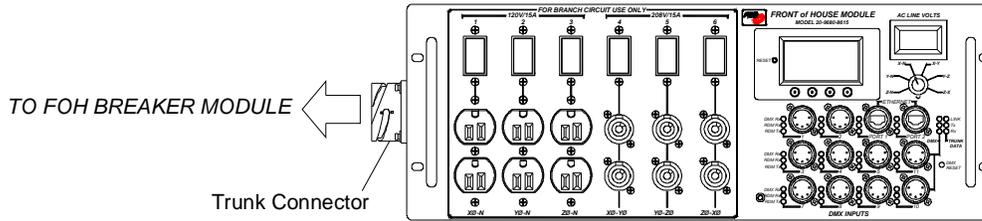

Figure 2-4: FOH Module Trunk Connection
Step 7. If required, place Front of House Breakout Box near lighting control console. Connect appropriate length Trunk Cable to trunk connector and route towards rack (**Figure 2-4**).